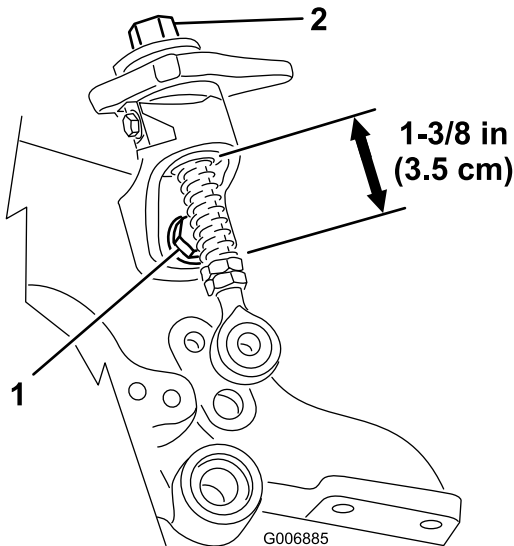

Figure 47
2. Loosen quick-up mounting bolt and make sure threaded rod is in line and not binding on bottom quick-up ramp (Figure 47). Re-tighten bolts.
3. Check the length of the quick-up springs on the threaded rods, the length should be 1-3/8" long (Figure 47).
4. If the height adjuster knob does not rotate freely, the bushing may be dirty (Figure 47). Clean the bushing if necessary.